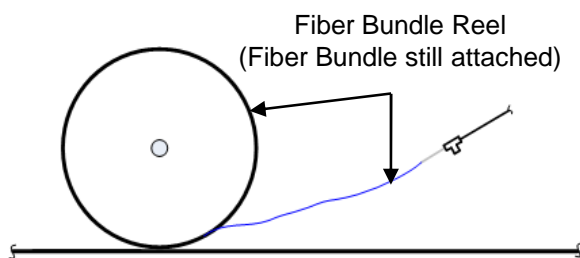

Figure 7
8.6 **Critical Step.** Carefully remove fiber bundle reel from Blowing Head Payoff Stand. Pay attention to exposed fiber bundle. Set reel aside in protected area. **See Fig. 7.**